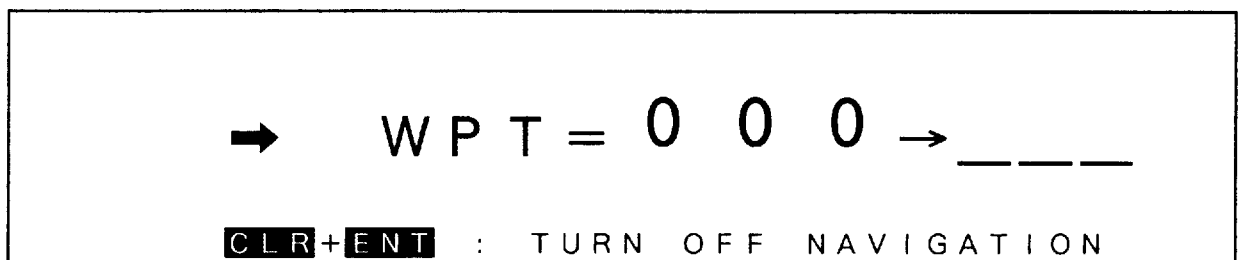

Figure 3-8 FR/TO display
- 1) Press the **FR/TO** key. The display should look something like Figure 3-8.